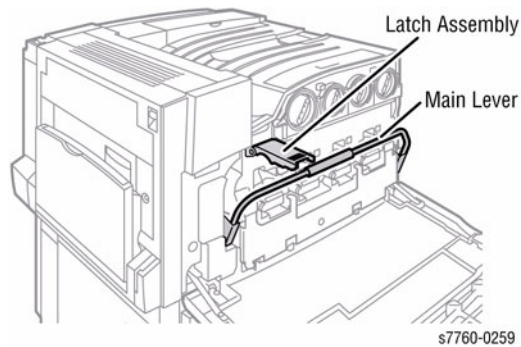

Figure 4 Front Door - Accumulator Belt Assembly
3. Open the Front Door, release the Latch Assembly, and pull down the Main Lever as shown in Figure 4.